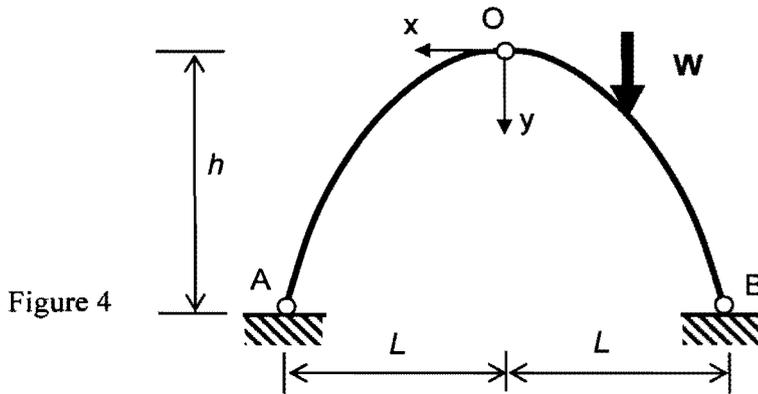

Figure 4
* 5. A symmetrical three-pin arch AOB is shown in Fig. 4. The shape of one half is defined by the equation